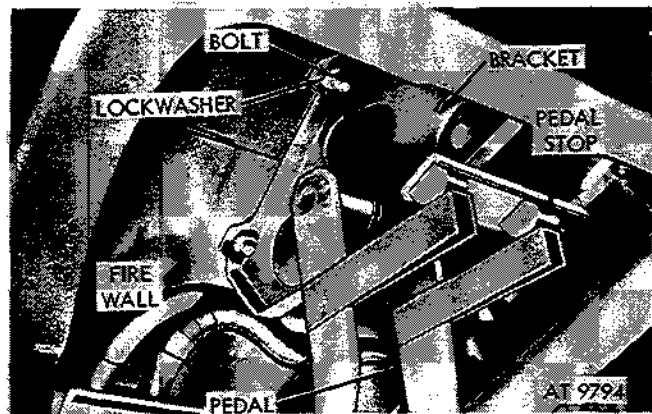

Figure 2-376. Disconnect pedal assembly from firewall.
(5) Remove four bolts and lockwashers securing master cylinder, bracket and pedal assembly to firewall and remove assembly (fig. 2-376).